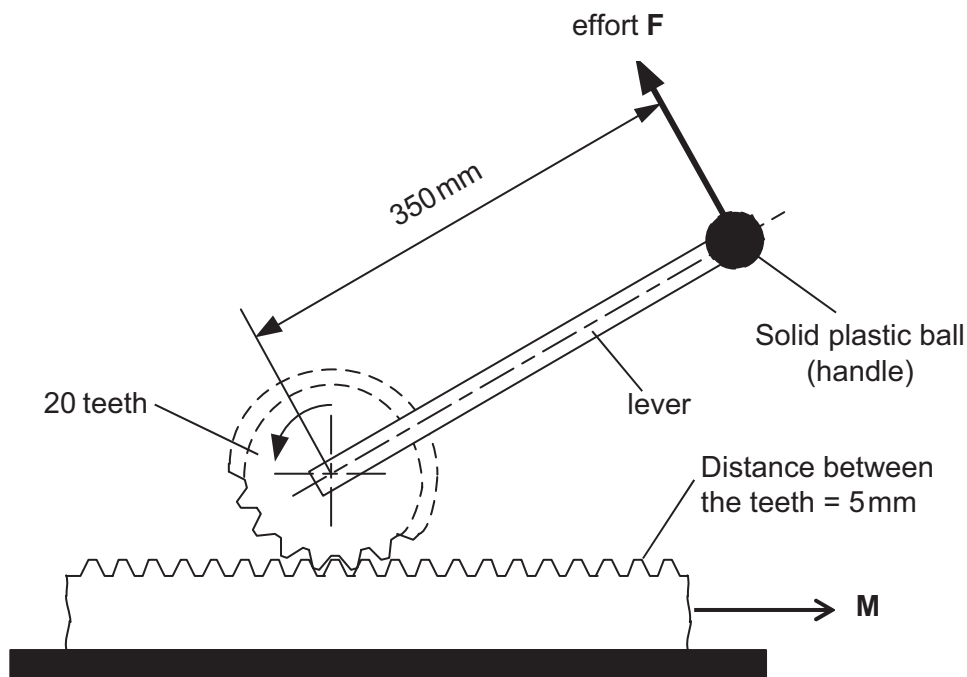

Fig. 4
- (e) Fig. 4 shows a mechanism used on a horizontal clamping machine in which the lever uses one form of motion to produce a different motion **M**.
- (i) What is the name of the mechanism in Fig. 4?
- (iv) The effort **F** is applied to the solid plastic ball at the end of the lever. If the lever is turned through 90 degrees calculate the distance moved by the effort **F** in **Fig. 4**.
- (v) Calculate the distance moved by **M** in **Fig. 4**.
- (vi) Calculate the velocity ratio for the mechanical system in **Fig. 4**.
(vii) Suggest **two** ways in which the design of the clamping mechanism in **Fig. 4** could be modified to increase the velocity ratio.
(viii) Use an annotated sketch to show a suitable method of attaching the solid plastic ball to the lever in **Fig. 4**.